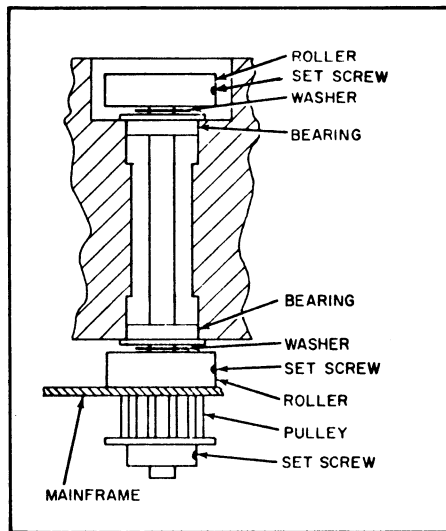

Figure 6-6. Roller Shaft Bearing Preload Adjustment
- a. Preloading bearings can be accomplished by rotating roller of shaft to be adjusted to conveniently expose the set screw. Using a 1/16" Allen screwdriver, LOOSEN set screw in top roller, figure 6-6.